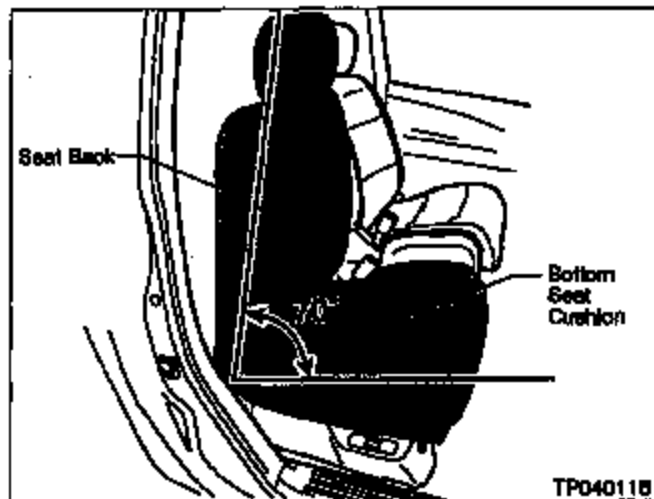

Figure 2
- The Seat Back is leaning slightly forward (towards the front of the vehicle - about 70°). See Figure 2.